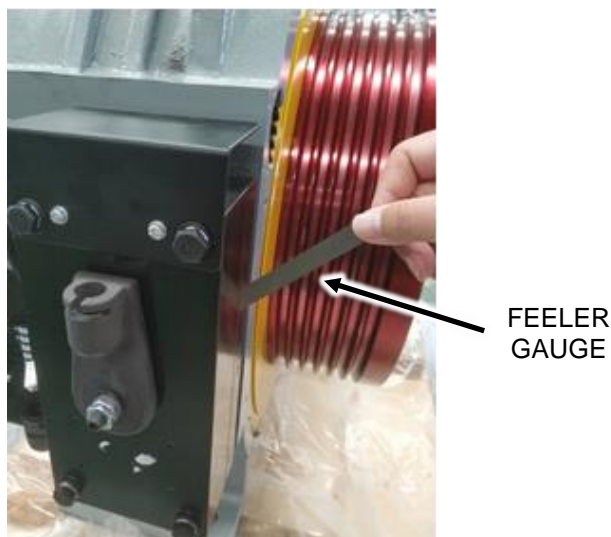

Figure 10
2. Rotate 4 guide screws counterclockwise with the 21mm wrench and test the air gap of brake while adjusting until the air gap of brake is between 0.012" (0.30 mm) to 0.022" (0.55 mm). See Figure 10.